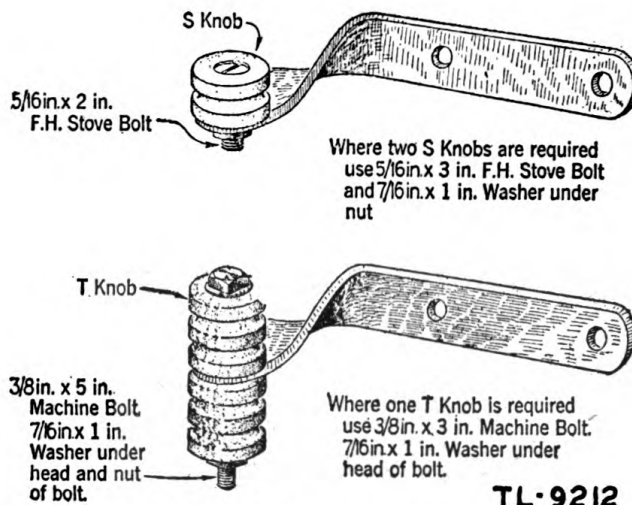

Figure 17. "S" and "T" knobs installed on corner brackets.
f. EQUIPPING CORNER BRACKET WITH "S" AND "T" KNOBS. Equip corner brackets with "S" or "T" knobs as shown in figure 17.